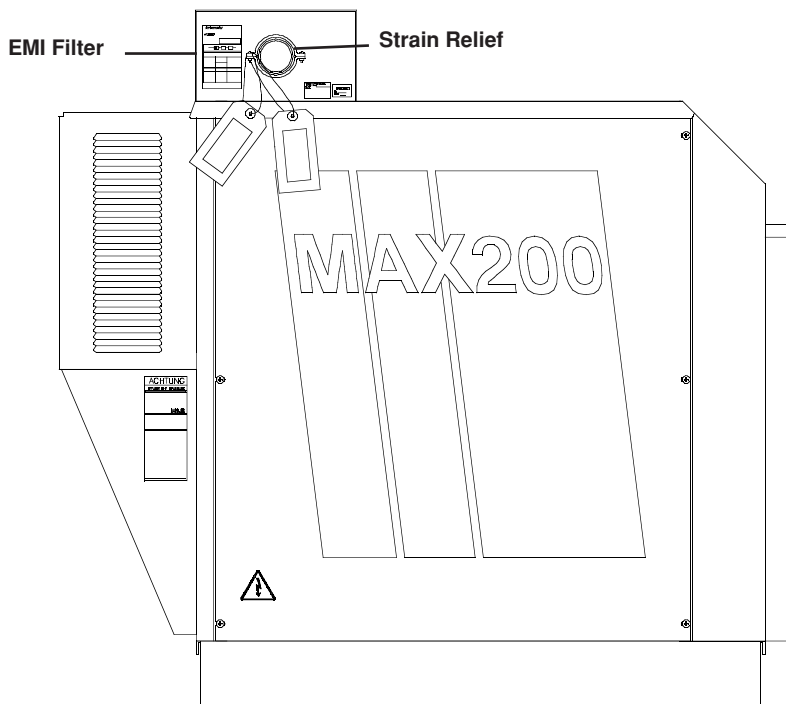

Figure e-1 MAX200 Power Supply with EMI Filter – Side View
1. Locate the EMI filter on the top rear of the power supply (see Figure e-1).
3. Insert the power cable through the strain relief (see Figure e-1).